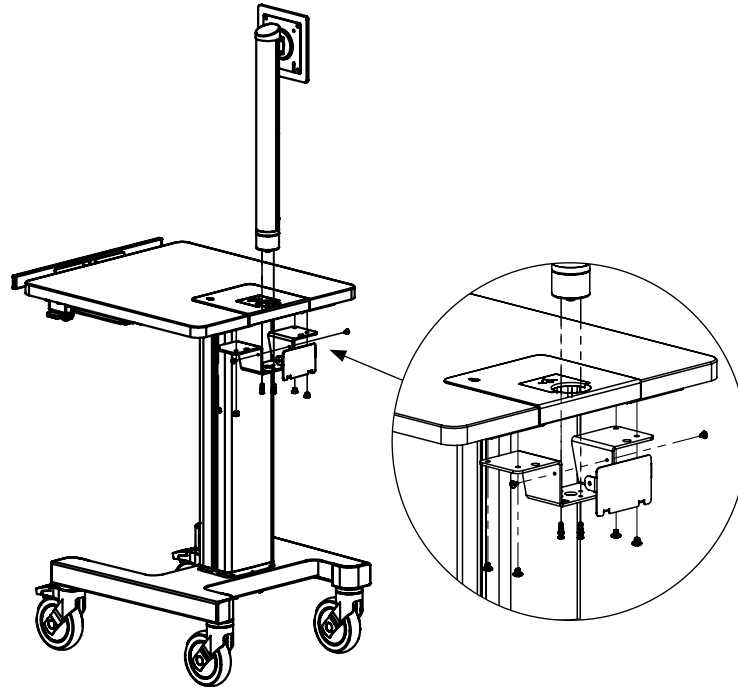

Figure 7
- b. **LCD/Display Model:** Install the LCD/Display Post (**Box B**) to the worktop, First place the LCD/Display bracket (**Box B**) to the worktop bottom and fasten four 1/4 - 20 x 1/4" long screws (**Figure 7**) from the bottom. Carefully insert the LCD/Display Post through the worktop opening on the top and align with the LCD/Display bracket hole. Fasten with four 8 - 32 x 9/16" long screws (**Figure 7**).